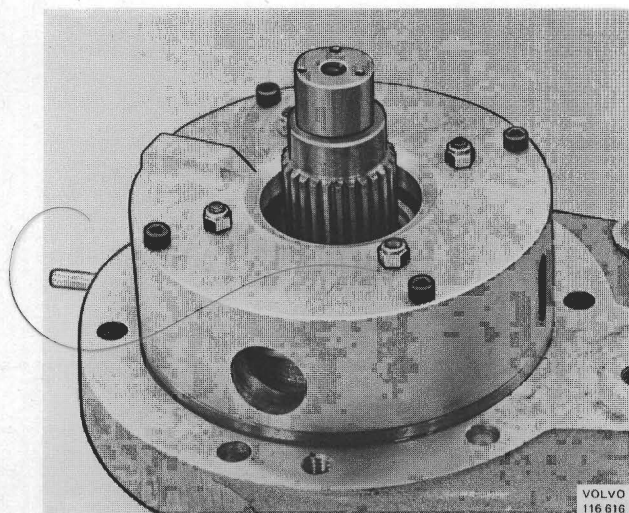

Fig. 48-16. Removing the bolts
3. Remove the retaining bolts (inhex 3 mm = 1/8") holding the control housing, see Fig. 48-16. Remove the housing.